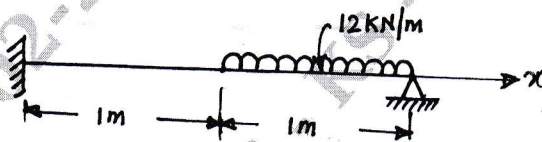

Fig Q5(b)
b. For the beam and loading as shown in Fig Q5(b) find the deflection at the centre of the beam. Assume  $E = 200\text{GPa}$ ,  $I = 4 \times 10^6\text{mm}^4$